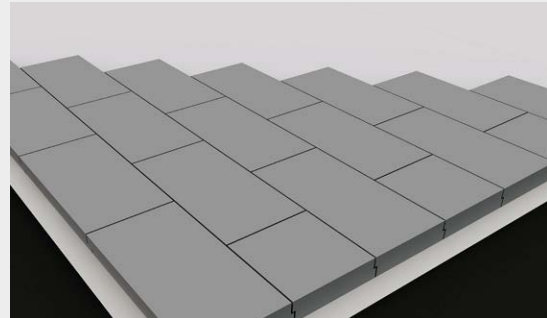

Figure 7
- 3 Lay XENERGY™ SL insulation boards in brick bond pattern with shiplap edges pushed together firmly (**Figure 7**).